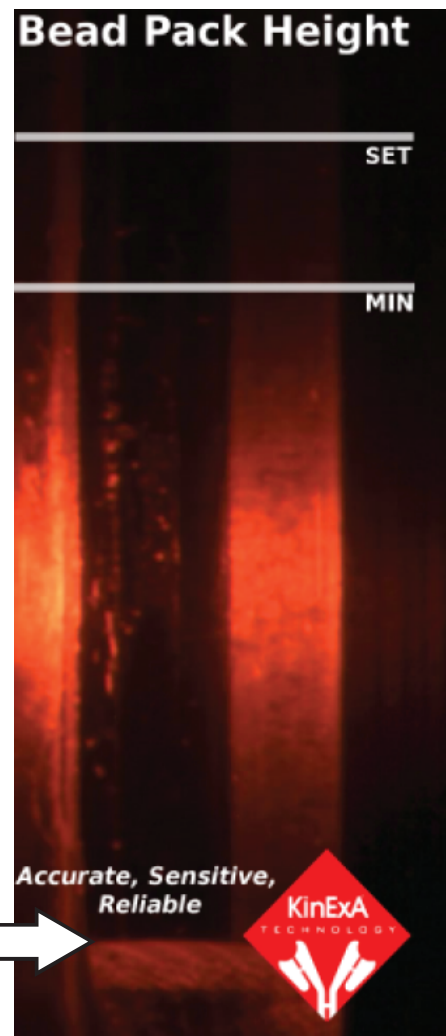

Figure 4. Camera image of a properly aligned flow cell.
- Look at the camera image and fine tune the alignment so that the top of the filter is in line with the corner of the KinExA Technology logo. (**Figure 4**)